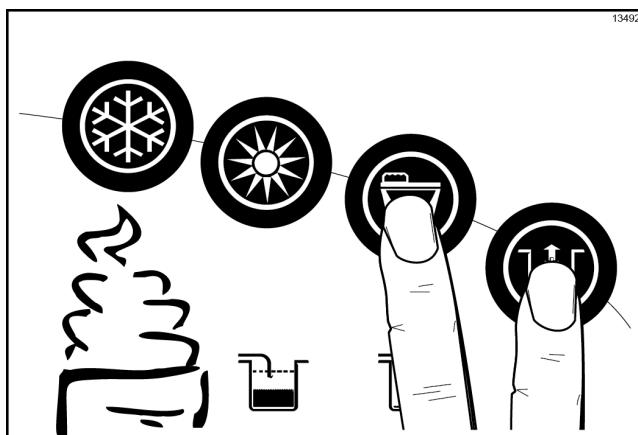

Figure-164
10. Press the Wash and Mix Pump symbols , , and close the draw valve. (See Figure-164.)